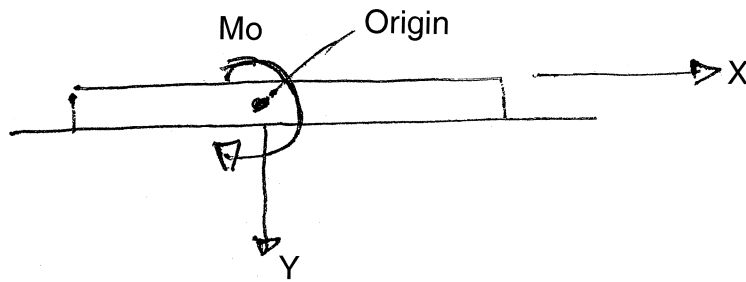

Fig. 4
3. Draw SFD, BMD and pressure diagram for the following infinite beam on elastic foundation refer Fig. 4. 11